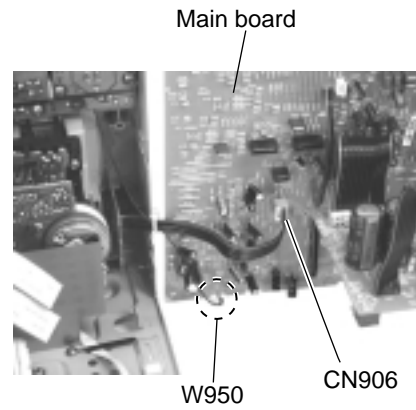

Fig.18
5. Disconnect the wire from connector CN906 and W950 on the lower side of the main board (Refer to Fig.18).